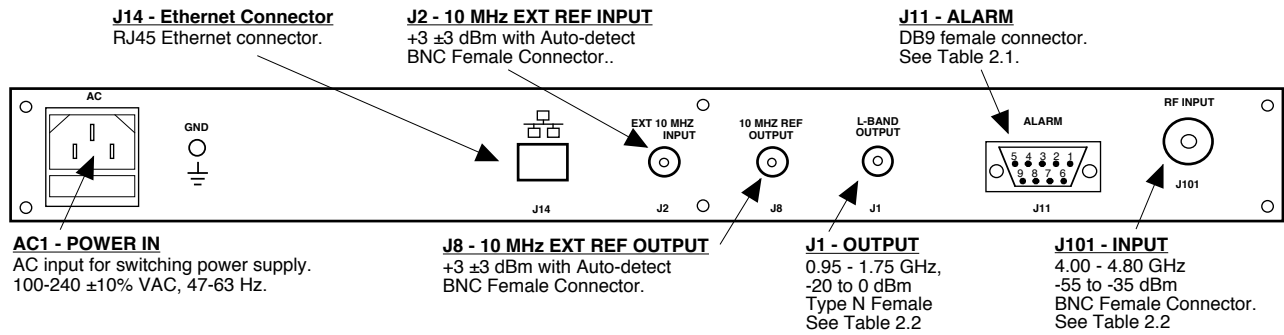

FIGURE 2.1 3116-4048 Rear Panel I/O's
Figure 2.1 shows the input and output connectors on the rear panel.
1. Connect a -55 dBm to -35 dBm signal to RF IN, J1 (Figure 2.1).